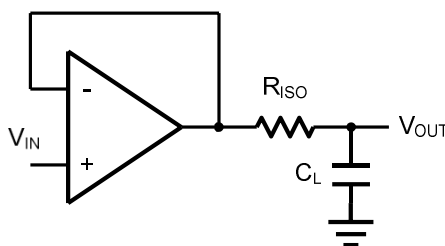
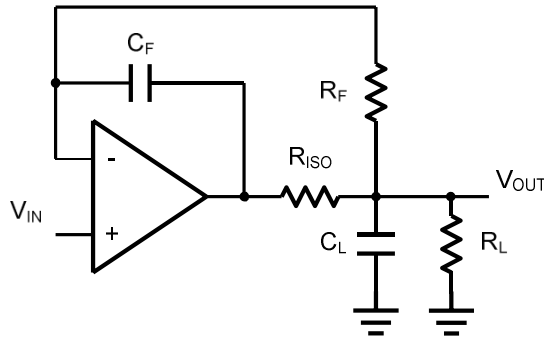

Figure 2. Indirectly Driving a Capacities Load Using Isolation Resistor
Figure 3. Indirectly Driving a Capacities Load with DC Accuracy
The AD855x family is optimized for bandwidth and speed, not for driving capacitive loads. Output capacitance will create a pole in the amplifier's feedback path, leading to excessive peaking and potential oscillation. If dealing with load capacitance is a requirement of the application, the two strategies to consider are (1) using a small resistor in series with the amplifier's output and the load capacitance and (2) reducing the bandwidth of the amplifier's feedback loop by increasing the overall noise gain. Figure 2. shows a unity gain follower using the series resistor strategy. The resistor isolates the output from the capacitance and, more importantly, creates a zero in the feedback path that compensates for the pole created by the output capacitance.
The circuit in Figure 3 is an improvement to the one in Figure 2. RF provides the DC accuracy by feed-forward the VIN to RL. CF and RISO serve to counteract the loss of phase margin by feeding the high frequency component of the output signal back to the amplifier's inverting input, thereby preserving the phase margin in the overall feedback loop.